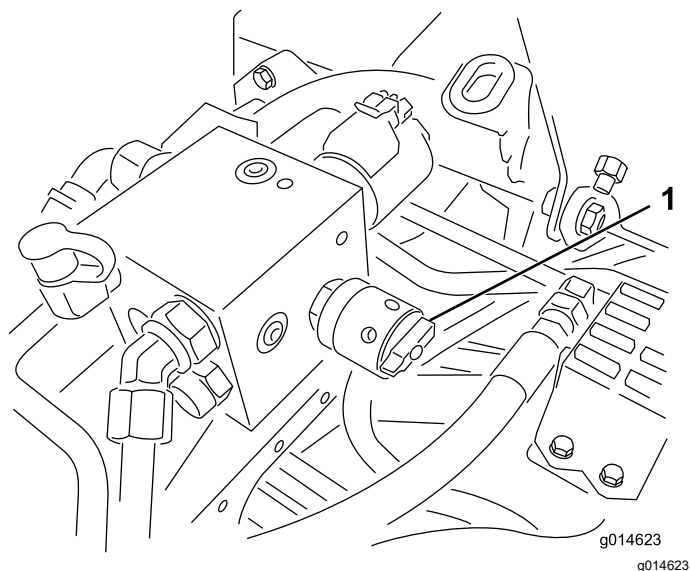

Figure 54
6. Rotate the reel-speed control to setting 1 (Figure 54).
4. Adjust the reel speed by rotating the knob (Figure 54) until the indicator arrows are in line with the number you determined in step 3.